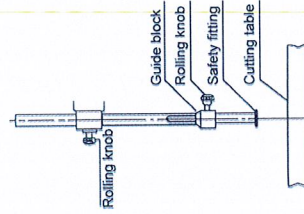

Fig. 6
1. Depends on thickness of materials, rotate rotary button to adjust guide block and protection device to the lowest position (Fig.6).